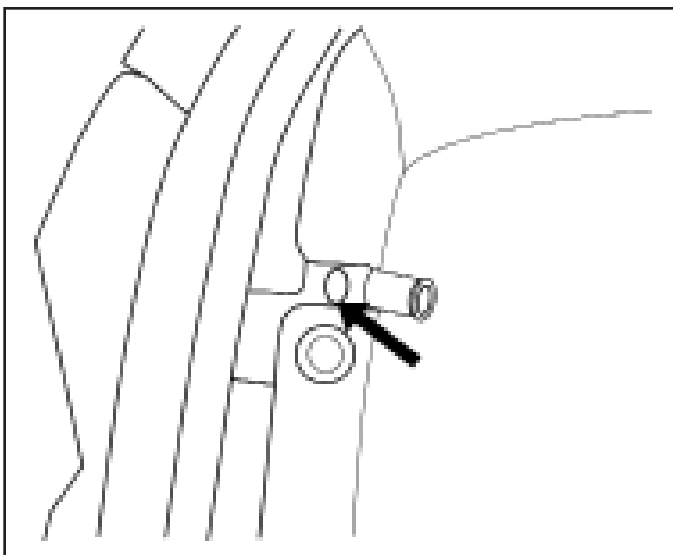

Fig. 6
12. Insert a rubber wellnut into the upper drilled hole. (Fig. 6)